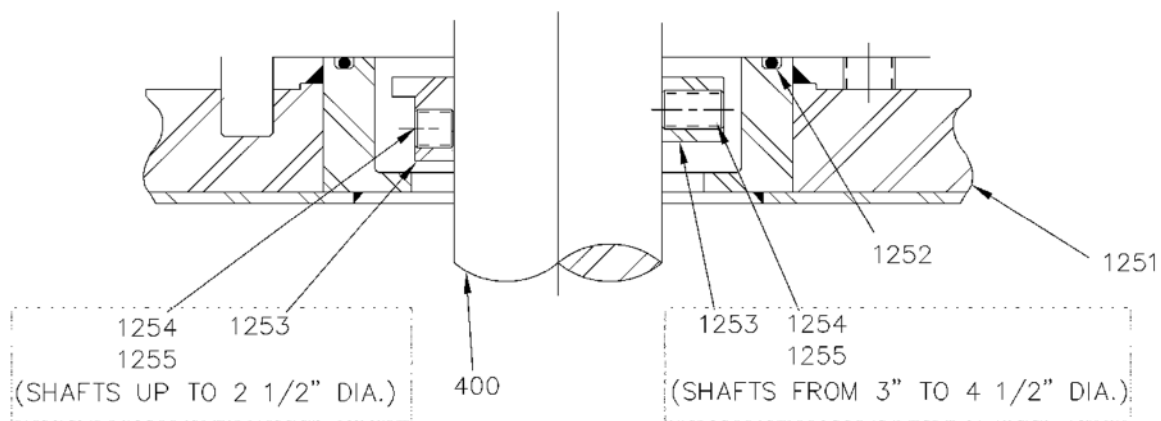

Figure 3. Types of Drop Collars
4. Install drop collar [1253], with the flanged side up if applicable (refer Figure 3, page 17), onto the tapered end of the agitator extension shaft [400]. Slide the collar down until the collar covers the setscrew relief area machined in the extension shaft. Rotate the collar until one of the tapped holes in the collar lines up with the spot on the shaft. Install half dog point setscrew [1254] into the spot on the shaft. Install the remaining cup point setscrews [1255] in the collar. Torque the setscrews to the value shown in the APPENDIX, Page 105.